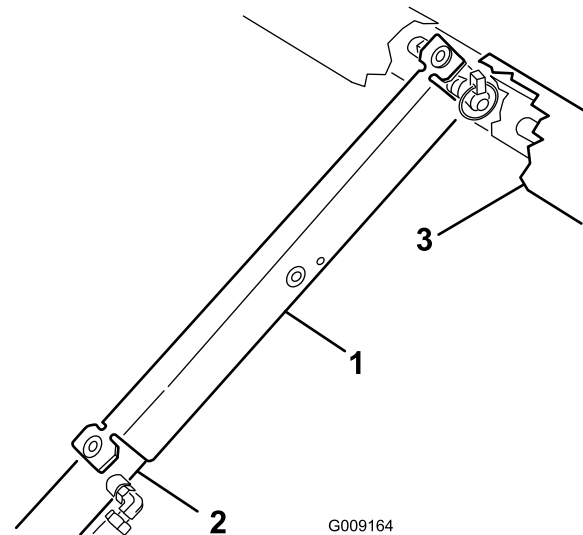

Figure 34
3. Push the bed support onto the cylinder rod, making sure the support end tabs rest on the end of cylinder barrel and on the cylinder rod end (Figure 34).